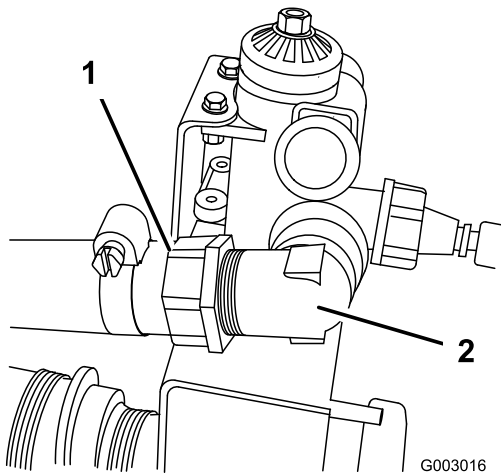

Figure 14
- 7. Insert the O-ring into the female threaded end of the long hose assembly and install it onto the fitting on the side of the control valve (Figure 14).
- 8. Connect the other end of the long hose assembly to the open fitting on the S53 tee that you installed into the by-pass hose (Figure 14) and secure it with a small retainer.